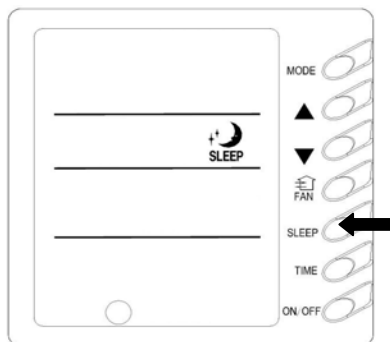

Fig. 7-5
7.2.4 SLEEP Function Setting (Fig. 7-5)